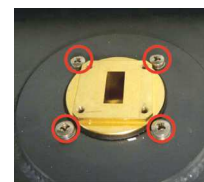

Fig. 7.34 Top flange
- 10 Remove the waveguide connector coming from the installation to get access to the top flange of the Waveguide Assy. Using tools 1/6, loosen and remove the four screws holding the top flange. See Fig. 7.34 (p. 138).